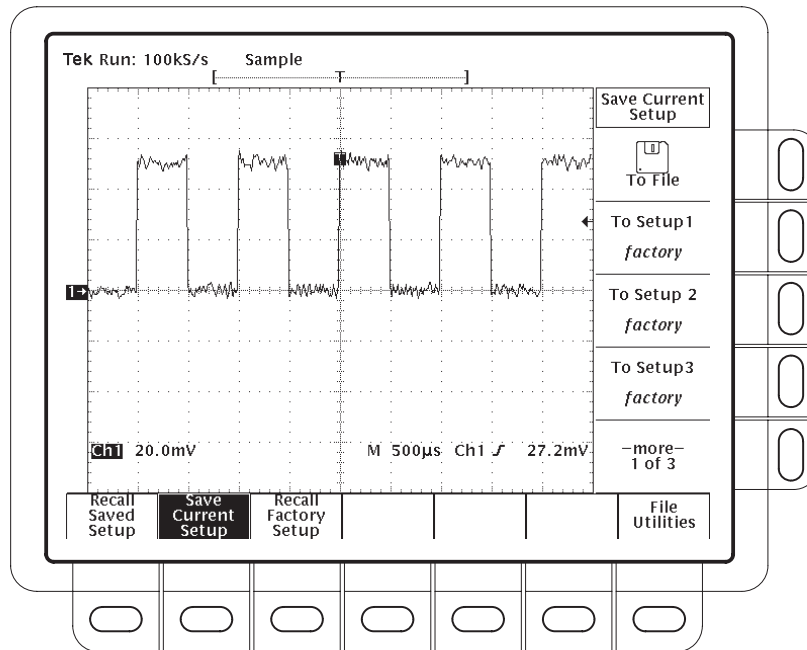

Figure 3-55: Save/Recall Setup Menu
2. To store a setup internally, choose one of the ten storage locations from the side menu **To Setup 1, To Setup 2, ...** (see Figure 3-55). Now the current setup is stored in that location.